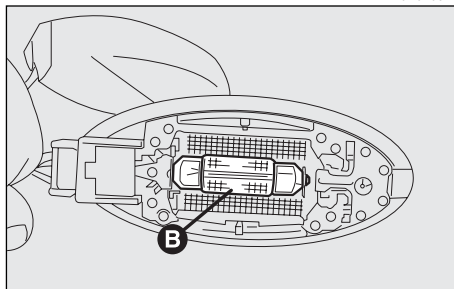

fig. 56
- Remove the bulb (**B-fig. 56**) pulling outwards and releasing it from the side contacts.